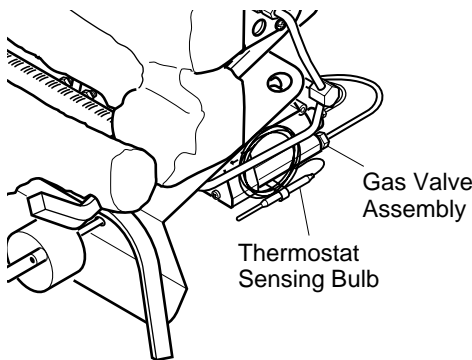

Figure 35 - Location of Gas Valve Assembly and Thermostat Sensing Bulb
1. Locate the gas valve assembly and thermostat sensing bulb (see Figure 35).